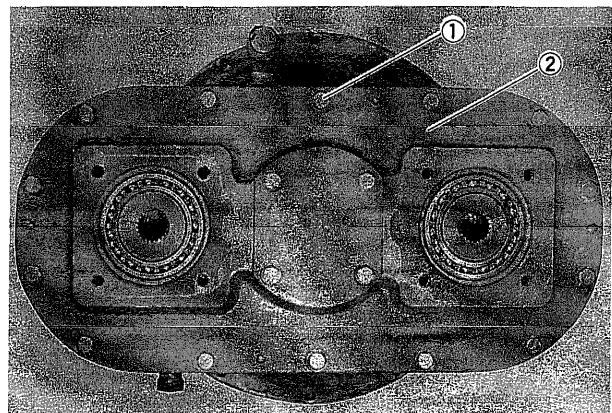

Fig. 4
- (3) Remove bolts ① and remove cover ②. (Fig. 4)